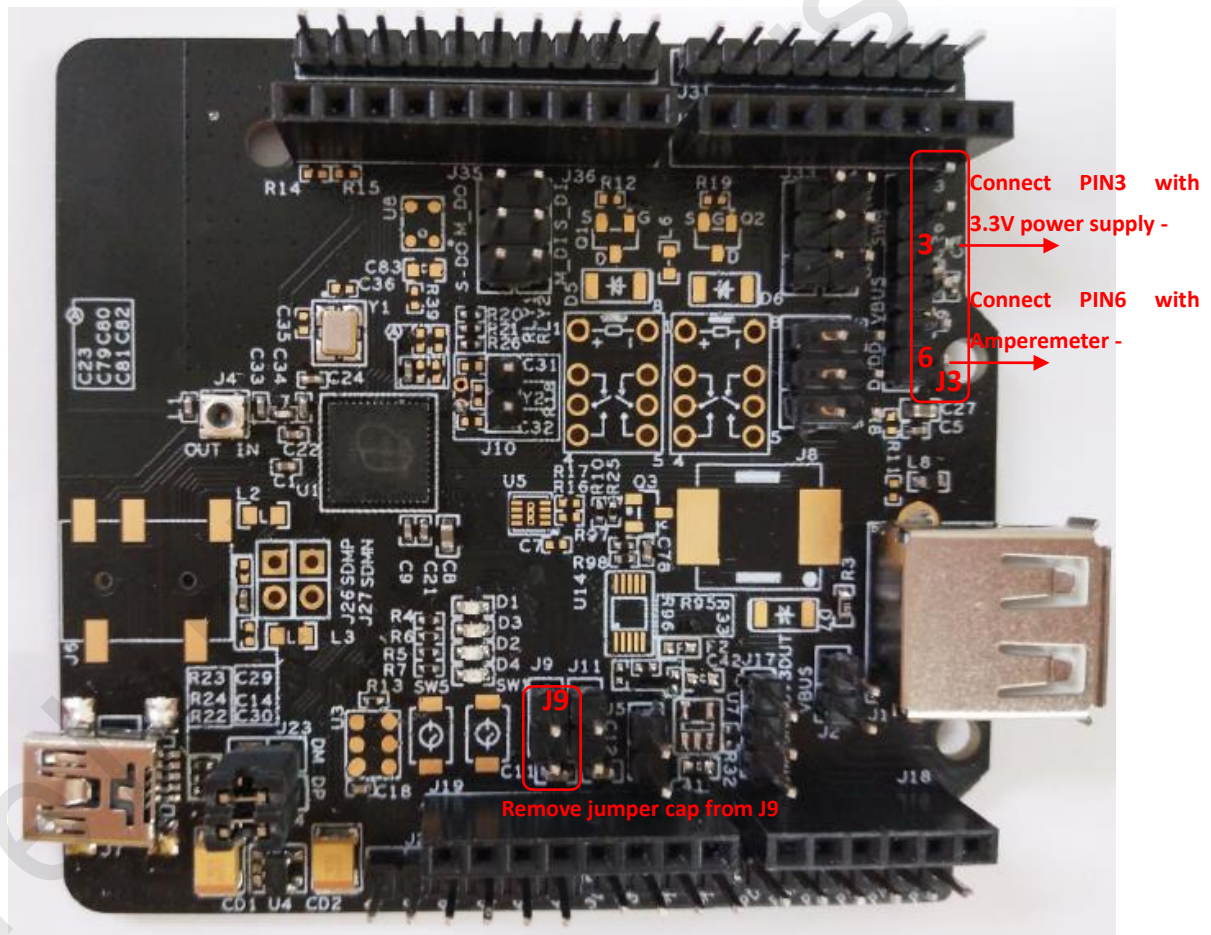

Figure 5 Connection chart to test sleep current
- 3) Remove the jumper cap from J9 of TLSR826XDK48, as shown in Figure 5.